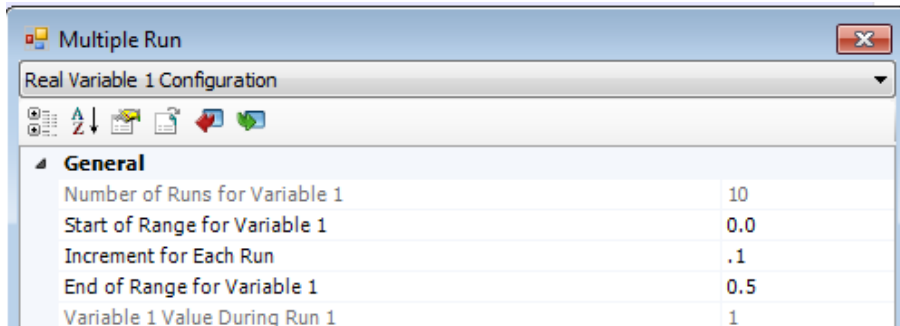

Figure 4: Remanent Flux variation range
- The remanent Flux (RFlux1 to 3) changes from 0 to 0.5 with steps of 0.1 per unit, (see Figure 4).